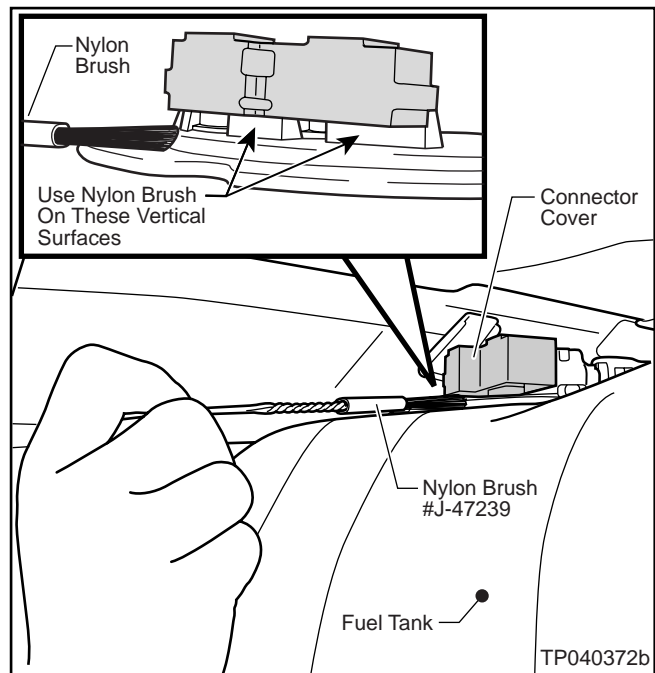

Figure 5
4. Use the Nylon Brush #J-47239 to loosen/remove dirt and debris on the vertical surface of the Fuel Sending Unit Connectors (see Figure 5).